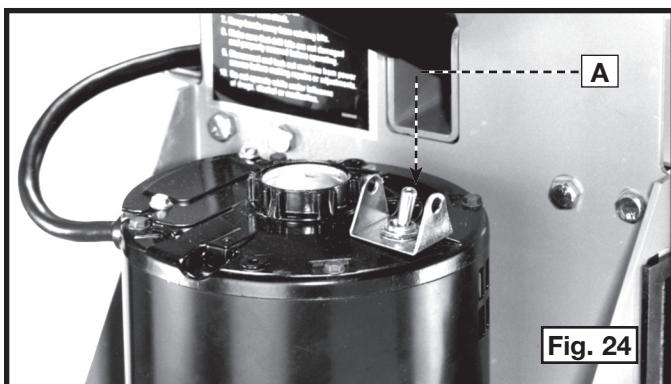

Fig. 24
The on/off switch (A) Fig. 24 is located on the top of the motor. To turn the machine "ON", move the switch to the "ON" position. To turn the machine "OFF", move the switch (A) to the "OFF" position.